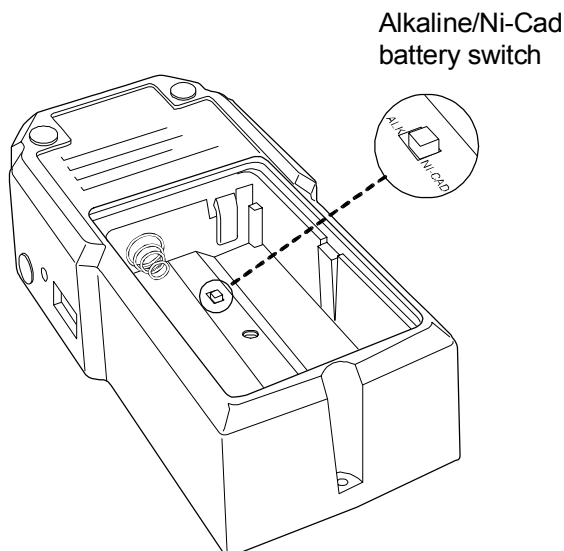

Figure 6-1 Innova Battery Compartment
4. Verify that the **ALK/NI-CAD** switch is set to the proper setting, see Chapter 6, Maintenance, Figure 6-1 Innova Battery Compartment.